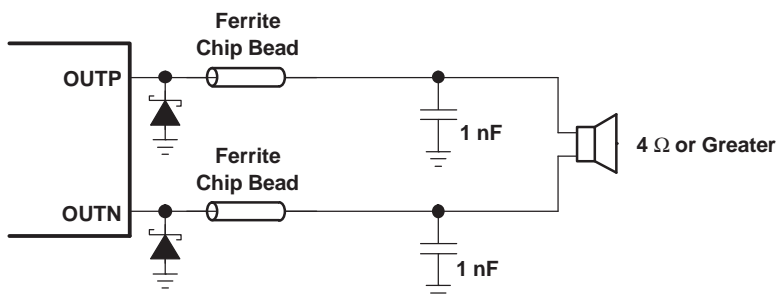
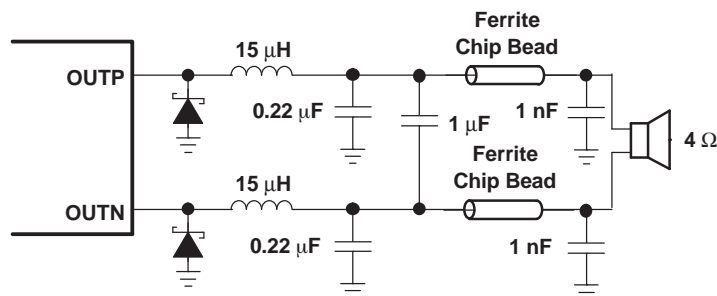
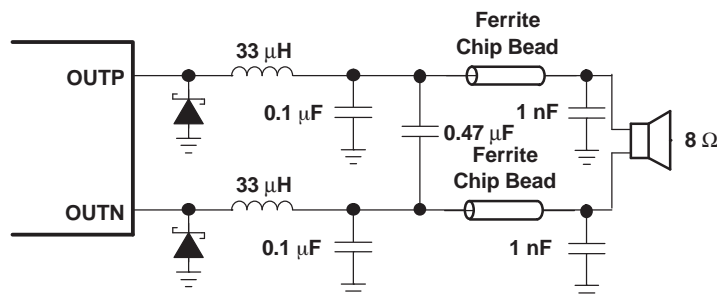

Figure 34. Typical Ferrite Chip Bead Filter (Chip bead example: Fair-Rite 2512067007Y3)
Figure 35. Typical LC Output Filter for 4-Ω Speaker, Cutoff Frequency of 27 kHz
Figure 36. Typical LC Output Filter for 8-Ω Speaker, Cutoff Frequency of 27 kHz
A ferrite bead filter (shown in Figure 34) should be used in order to pass FCC and/or CE radiated emissions specifications and if a frequency sensitive circuit operating higher than 1 MHz is nearby. The ferrite filter reduces EMI around 1 MHz and higher (FCC and CE only test radiated emissions greater than 30 MHz). When selecting a ferrite bead, choose one with high impedance at high frequencies, but very low impedance at low frequencies.
Use an additional LC output filter if there are low frequency (<1 MHz) EMI sensitive circuits and/or there are long wires (greater than 11 inches) from the amplifier to the speaker, as shown in Figure 35 and Figure 36.
- **Output filter** — The ferrite filter (Figure 34, page 18) should be placed as close to the output terminals (pins 10, 11, 14, and 15) as possible for the best EMI performance. The LC filter (Figure 35, page 18 and Figure 36, page 19) should be placed close to the ferrite filter. The capacitors used in both the ferrite and LC filters should be grounded to power ground.